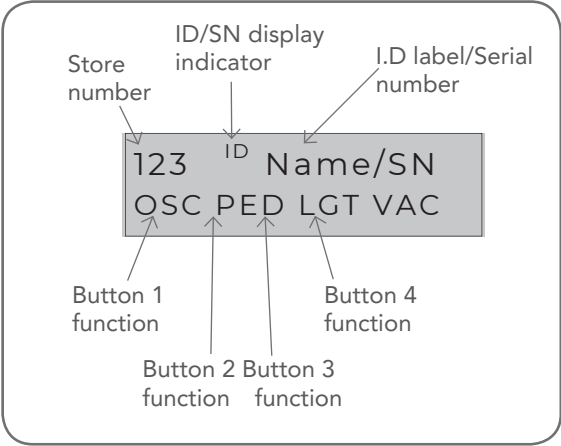

Fig 10.1
NeoSlider™ can store up to thirty (30) transmitters in its memory. Each transmitter can be allocated an alphanumeric ID label up to eleven (11) characters in length and each button can be assigned to one of several control functions. The settings for a transmitter are represented in (Fig. 10.1). It shows the transmitter's store number, ID label or serial number and the functions assigned to each of its four buttons. To toggle between ID/SN display, press UP/DOWN with the cursor on the ID/SN indicator. The procedures below code, delete, replace, edit and copy transmitter records.